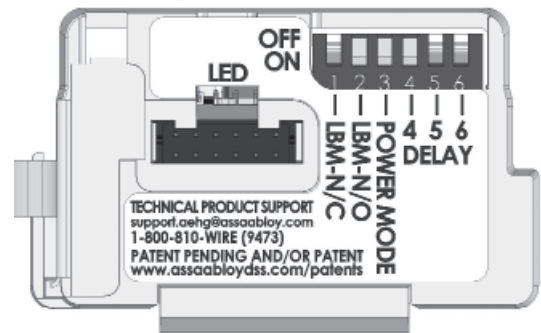

Figure 11 - DIP Switch Setting for Power Mode Installation
5. Ensure DIP switch (position 3) enables Power Mode (Figure 11)